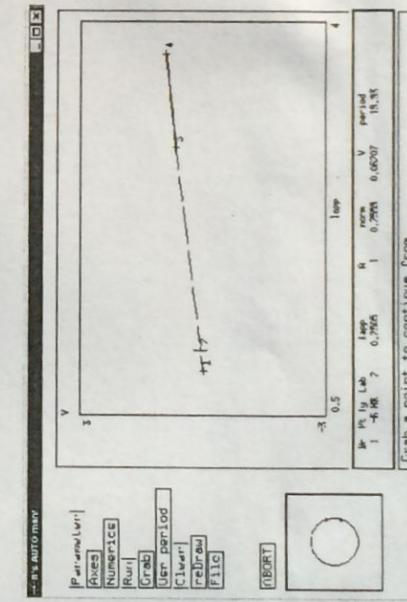
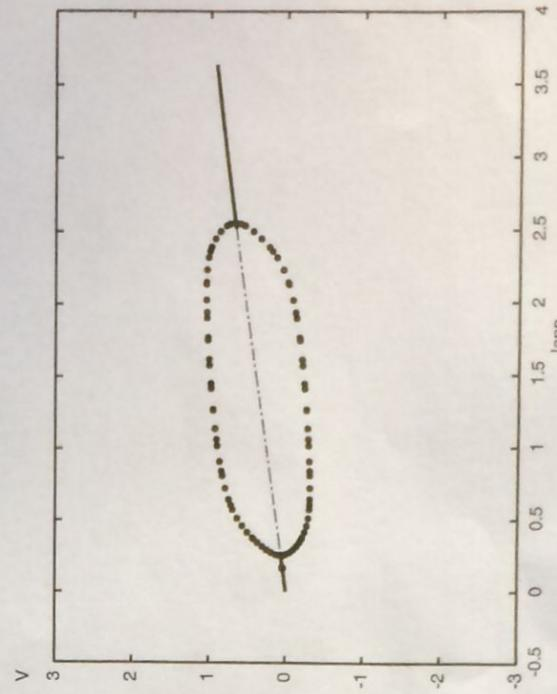

Figure B.13 Initial bifurcation diagram and AUTO window for the FH-N system.
Figure B.14 Final bifurcation diagram the FH-N system.
6. To begin, click **Run** **Steady state**. The beginning of the diagram should appear with four points labeled as in Figure B.13. The bold line represents a stable steady state, and the faint line represents an unstable steady state.
7. Now choose **Grab**. This will allow you to see what the four marked points in the diagram represent. A cross appears on the plot at marker 1, and below the plot, a description will be present. Lab is the label for the point (1), Ty is the type of point. EP stands for End point, where we started computing. Iapp is the value of the parameter for that location of the graph.
8. Move the cursor over the (2). Under Ty should be the label **HP**, for Hopf bifurcation. Point (3) should also be a Hopf bifurcation, and (4) will be the other end point.
9. With the cross back on (2), press **Enter**. This "grabs" that point as the beginning of a new calculation. Click **Run** again. This time, the pop-up screen is labeled as **Hopf Pt**, and we will choose **Periodic** to follow the periodic orbits as Iapp changes. You should get something like Figure B.14. The darkened circles show that the periodic orbits are stable. Open circles represent an unstable periodic solution. Note that there are upper and lower points in the plot for the periodic solution, showing the maximum and minimum values (of v) that the solution attains.